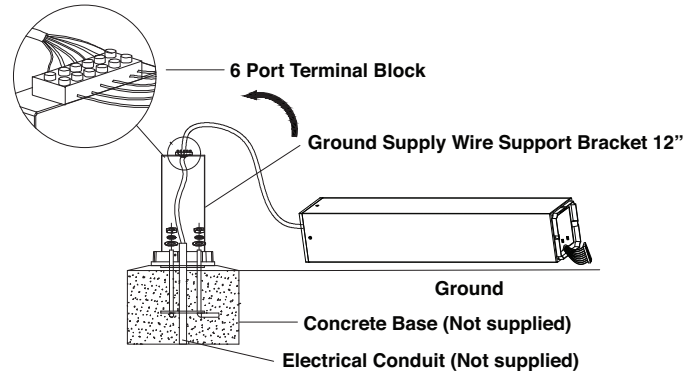

Fig. 7
6. Place bollard base plate over anchor bolts and tighten nuts securing the base plate to the foundation. (Fig 7)
7. As the wires shown on Fig 7 will not be disconnected during installation, so please double check to make sure they are properly connected after the base installation.